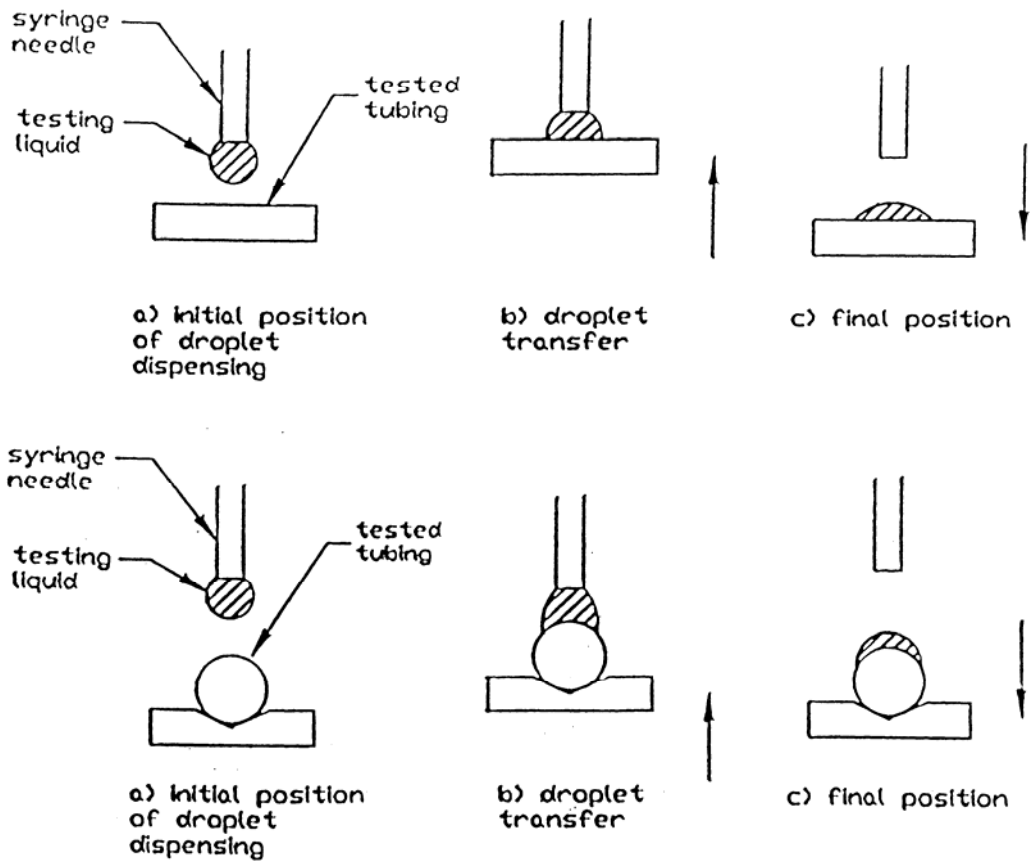

Figure 6
- Bring the specimen holder up until the droplet touches the surface (Figure 6). Lower the specimen holder to complete transfer of the droplet. Wait for the droplet to stabilize. Make sure that the footprint of the droplet is round on a flat specimen and round or slightly oval on a tube.